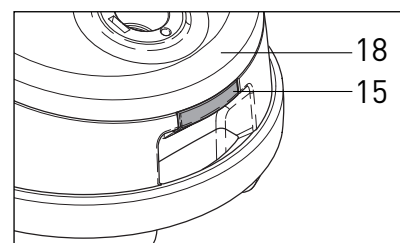
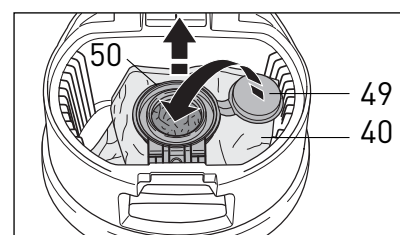

Figure 22
Figure 23
## Changing the Filter Bag - Figures 22, 23, 24, 25 & 26
To change the filter bag (40), switch off the power and unplug the vacuum. Lift the cover release catch (#15, figure 22) and raise the filter bag cover (18). Seal the filter bag with the sealing cap (49). Lift the filter bag out of the holder by tilting the green collar (50) up and pulling it out of the holder as shown in figure 23.